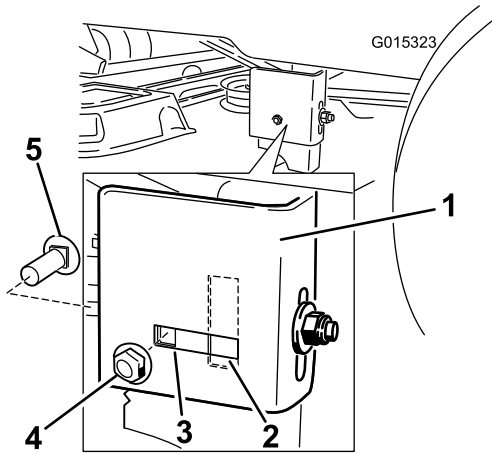

Figure 50
8. If the side carriage bolt is in the fixed position, remove the side carriage bolt and side locking nut from the fixed position and install it into the slotted adjustment position (Figure 50).